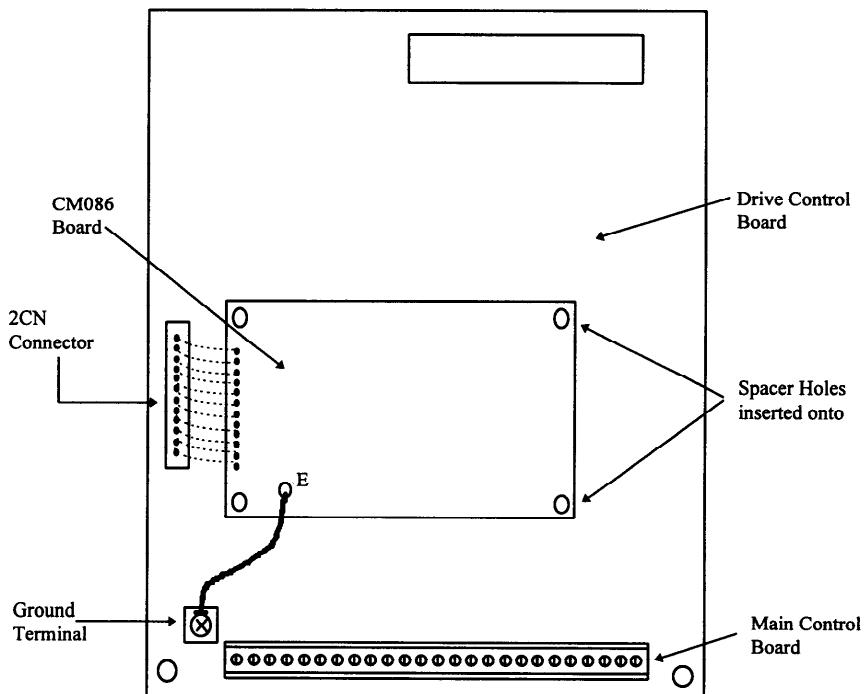

Figure 3-1. Position of the CM086 Board on the GPD 506 Drive
- Figure 3-1. Position of the CM086 Board on the GPD 506 control board